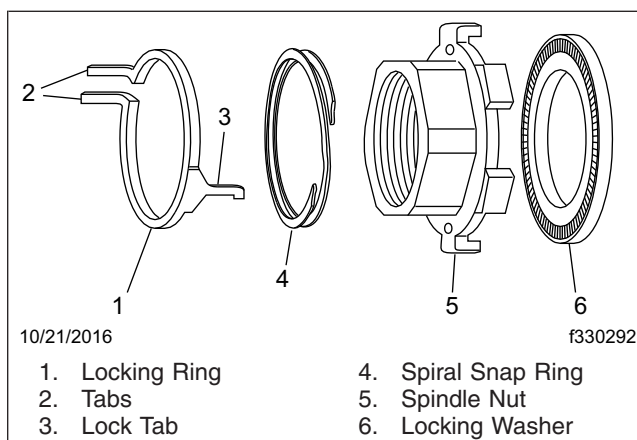

Fig. 3, PreSet Plus Spindle Nut System
7. ConMet PreSet Plus hubs use a special integrated spindle nut designed specifically for PreSet Plus hubs. See **Fig. 3**. Remove the axle nut as follows.
- 18.1 If the red locking snap ring is locked into the spindle nut, compress the tabs and pivot the ring to remove it from the nut. See Fig. 3.
- 18.2 If needed, install the PreSet Plus spindle nut components as shown in Fig. 3.